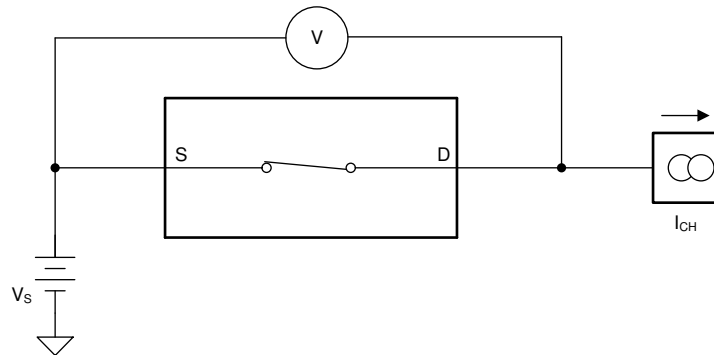

图 7-1. On-Resistance Measurement Setup
The on-resistance of the TMUX6136 is the ohmic resistance across the source (Sx) and drain (D) pins of the device. The on-resistance varies with input voltage and supply voltage. The symbol R_{ON} is used to denote on-resistance. The measurement setup used to measure R_{ON} is shown in 图 7-1. Voltage (V) and current (I_{CH}) are measured using this setup, and R_{ON} is computed as shown in 方程式 1.